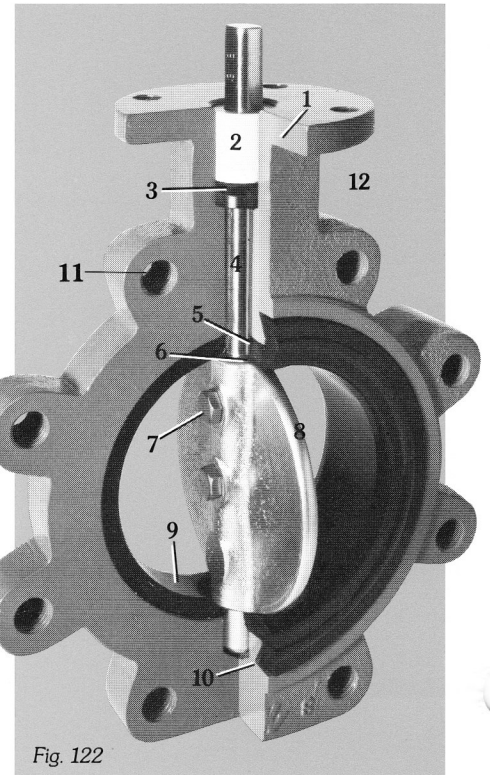

Fig. 122
- Body:** Cast iron, ductile iron, aluminum in Fig. 100, cast iron only in Fig. 122
The Fig. 100 is a general purpose butterfly valve with over 30 years of proven performance in the process industries. The Fig. 122 is the companion to the Fig. 100, utilizing the same proven features in a lug-style body.
(11) Tapped lugs for 125/150 class ANSI flange drilling. Fig. 122 body design fulfills applications requiring tapped lugs for installation.
(12) Bubble-tight shut-off every valve is tested at 10% over full pressure rating.